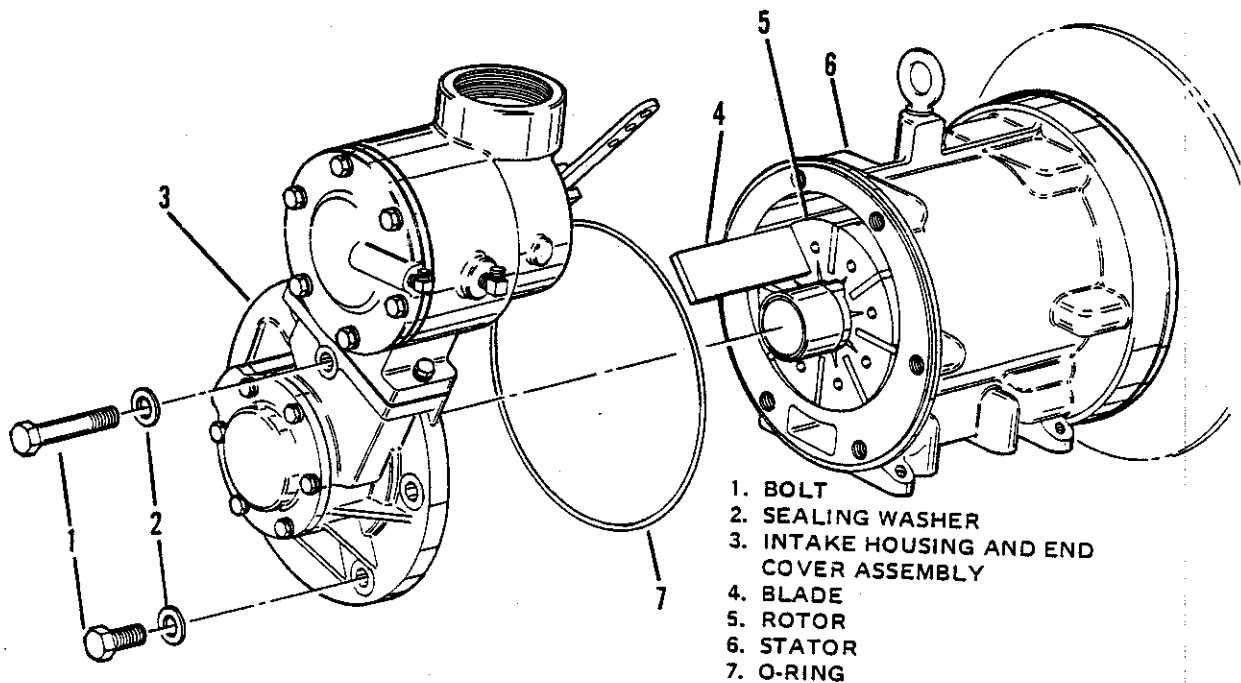

Figure 5-3. Compressor Non-Drive End
5-6.3 Compressor Rotor Blade Maintenance (See Figure 5-3).
essary to gain access to non-drive end of the compressor. Disconnect speed control mechanism and air lines as necessary from compressor intake housing and end cover assembly. (3, figure 5-3). Disassemble as follows:
1. Remove six bolts (1, figure 5-3) and sealing washers (2). Tap intake housing and end cover assembly (3) with a soft mallet while pulling away from stator (6). Remove the assembly (3) and o-ring (7).
2. Use a small wire with one end bent to form a hook and remove the eight rotor blades (4) from rotor (5) slots. To remove blades (4) that are on the bottom of the rotor, press the start switch on instrument panel momentarily to rotate rotor to
4. Dip the eight rotor blades (4, Figure 5-3) and o-ring (7) in clean compressor oil. Slide the blades (4) into rotor (5) slots. Place o-ring (7) on end flange of stator (6). Carefully assem-